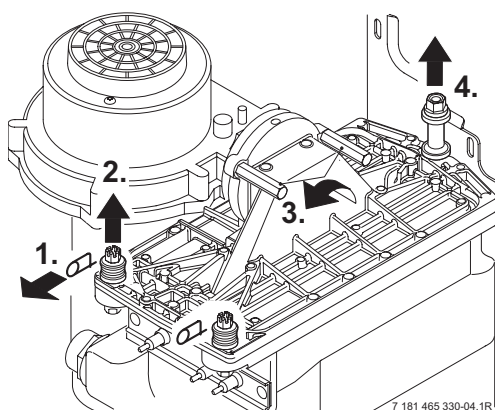

Fig. 52
- Remove the clips (1.) and unscrew the two bolts (2.). Refer to fig. 52.